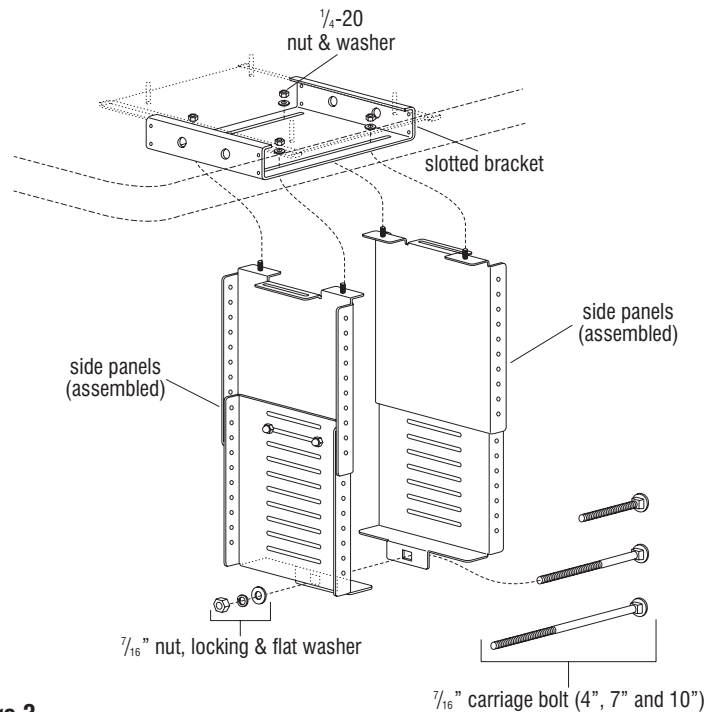

Figure 3
6. Position the assembled side panels up into the slotted bracket. Space the side panels to the approximate width of the CPU and finger tighten the four 1/4-20 acorn nuts and washers to hold the brackets in place (Figure 3).
7. Choose the appropriate 7/16" carriage bolt (4", 7" or 10") for the CPU width. Insert the bolt through the holes in the bottom tabs of the side panels. Place a washer and lock washer onto the bolt. Screw the nut on just enough to secure the side panels together. Take the remaining two carriage bolts and slide them into the storage holes in the side of the slotted bracket (Figure 3).